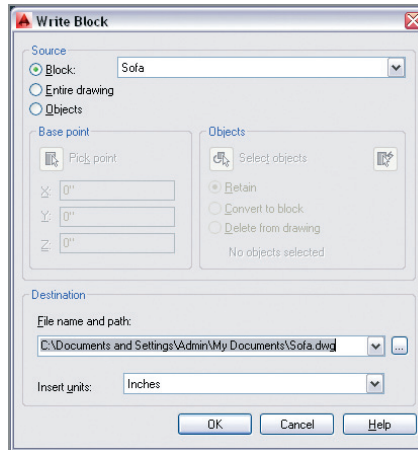

FIGURE 9.1 Writing a block to a file
2. Type **W** (for Write block), and press Enter. Select the Block radio button in the Source area of the Write Block dialog box. Select Sofa from the Block drop-down. Select Inches from the Insert Units drop-down in the Destination area (see Figure 9.1). Click OK, and the geometry within the Sofa block definition is written to `Sofa.dwg`.